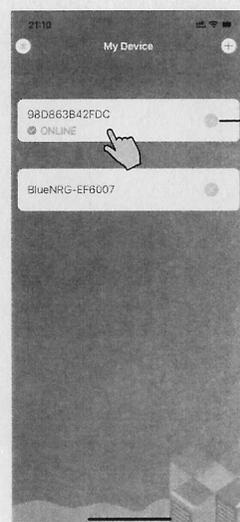

Fig.17 Device management interface
- After WIFI and DTU bonding is done, and jump back to My Device(Fig. 17).